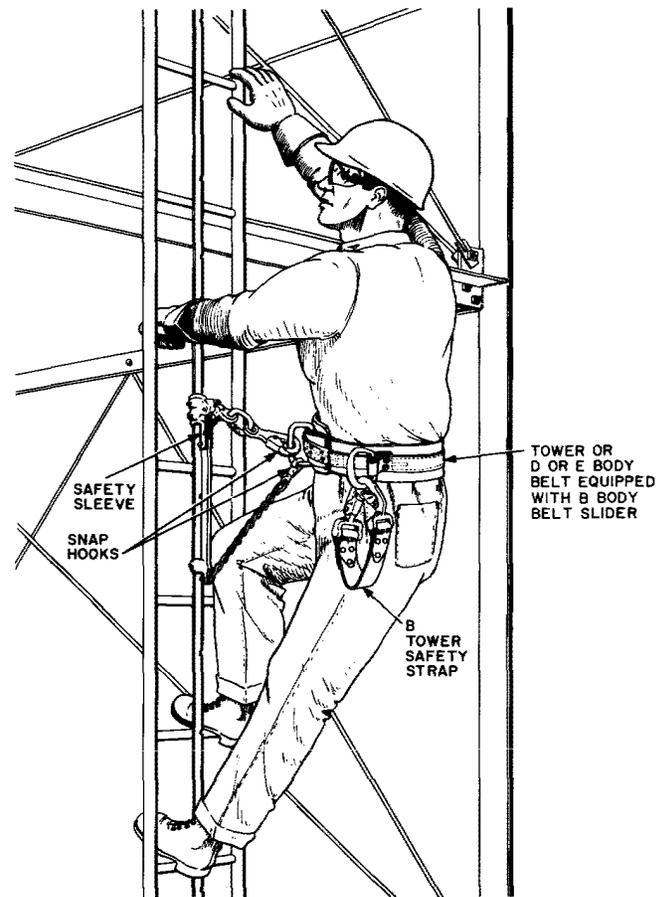

Fig. 6—Tower Body Belt Attached to Safety Sleeve
- (a) Attach both snap hooks of the safety sleeve to the rectangular steel ring of the slider *before* ascending the tower ladder. Fig. 6 shows the safety sleeve connected to the Tower Body Belt during the workman's ascent.